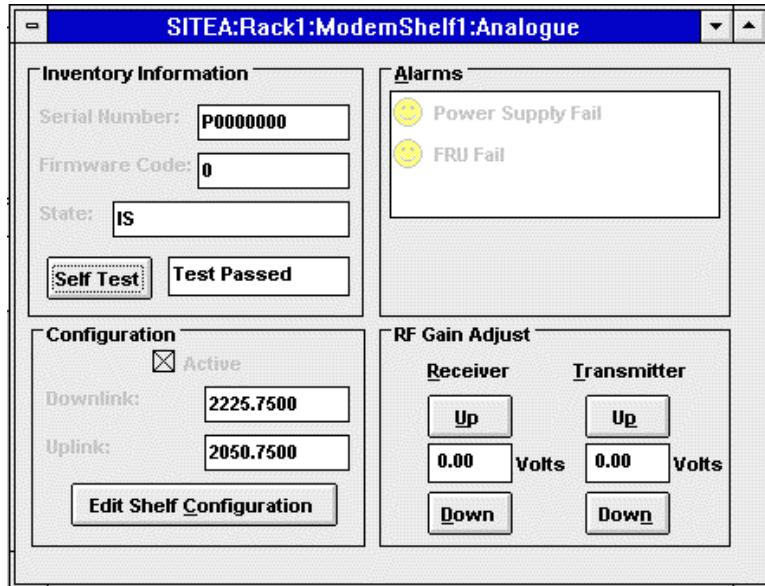

Figure 7-7. RF Gain Settings
- a) Using the Sitespan select the RF Card view from the Shelf view. See Figure 7-7.